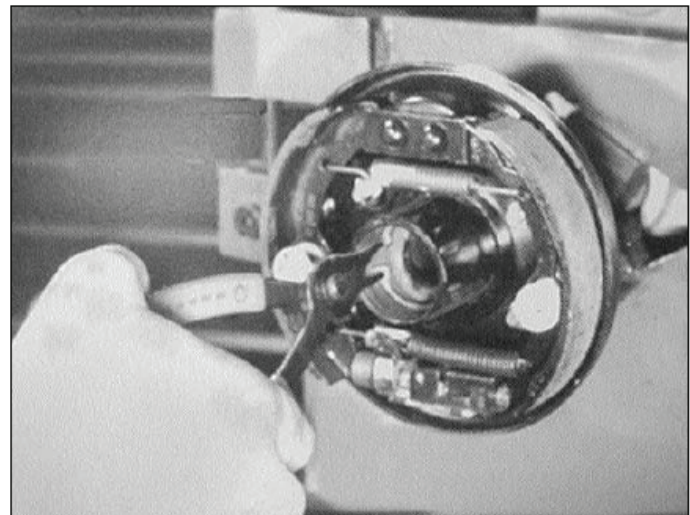

Figure 7-11. Removing Inner Snap Ring
4. Remove inner snap ring (27). Use care to not damage bearing surfaces. See Figure 7-11.